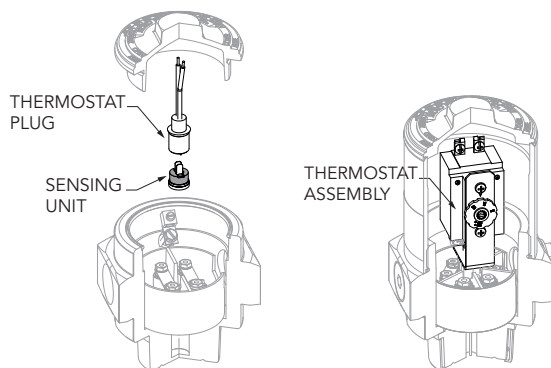

Figure 8. Replacing fixed thermostat sensing unit (left) and adjustable thermostat (right).
2. For models with fixed thermostat, pull thermostat plug upwards to remove thermostat plug and thermostat sensing unit. Pull sensing unit from plug. See Fig. 8.
3. For models with adjustable thermostat, unscrew and remove complete adjustable thermostat assembly. See Fig. 8.